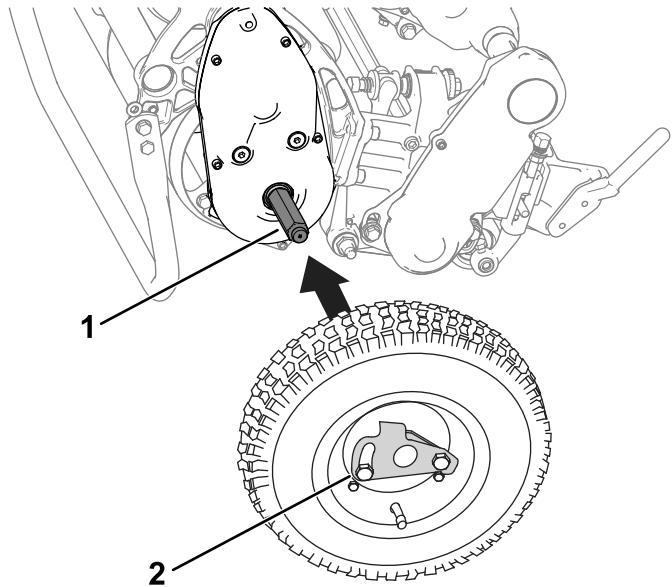

Figure 26
2. Slide a wheel onto an axle (Figure 26).
3. Pivot the wheel-locking clip (Figure 26) away from center of the wheel, allowing it to slide farther onto the axle.